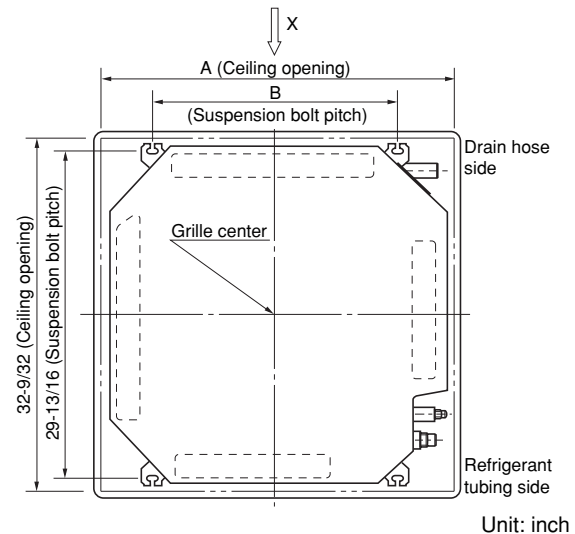

Fig. 3-2
- Follow Fig. 3-2 and Table 3-1 to make the holes in the ceiling.